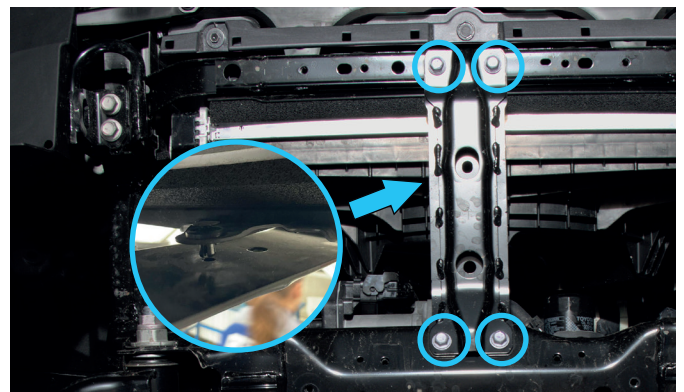

Fig. 6
6. Remove factory beam as shown in fig.6.